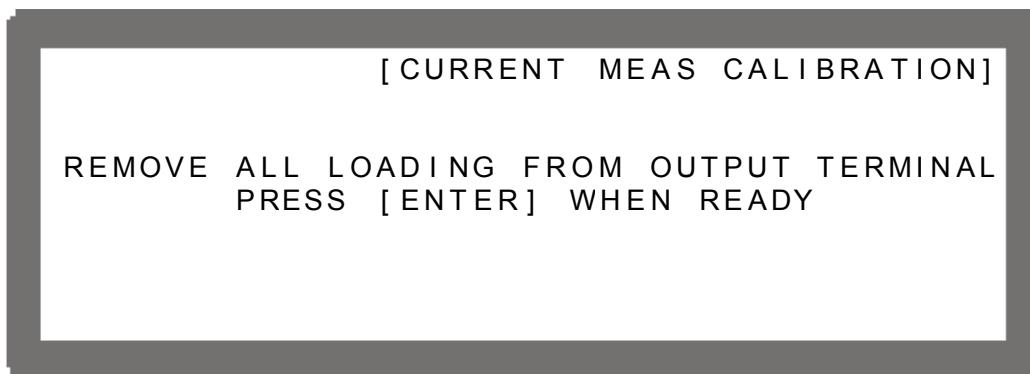

Figure 3-104
2. Press “**ENTER**” to confirm and go to the current calibration options as shown in Figure 3-104.